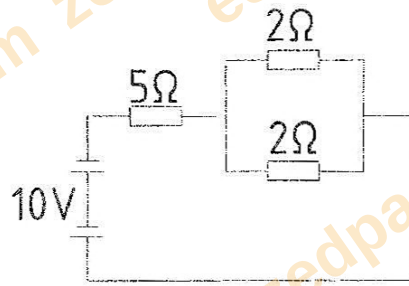

Figure 5
- 7 **Figure 5** shows a circuit with resistors as shown.
Question SECTION B, Q7 (15 marks). Figure 5: a 5-ohm resistor in series with two 2-ohm resistors in parallel, supplied by 10V.